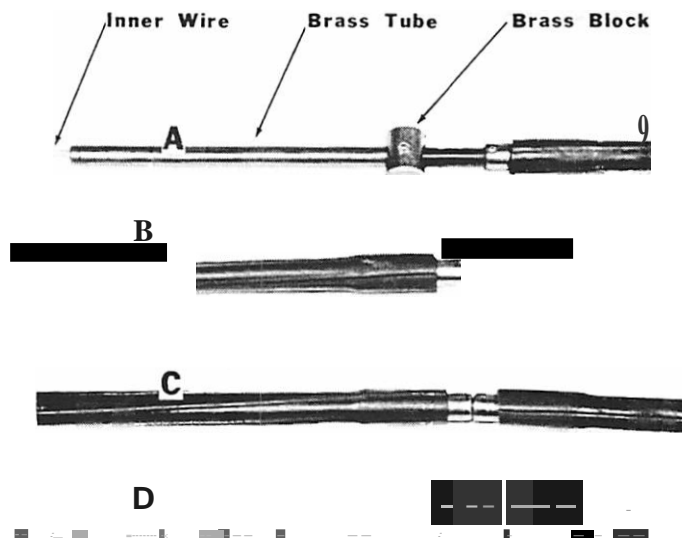

Figure 3. Increasing Length of Cable
1. Remove inner stainless steel wire from control cable. ("A" in Figure 3)
2. Remove brass or stainless steel tube from end of new cable. ("A" in Figure 3)
3. Cut tube off cable to be connected 3/16" (4.763mm) from shoulder of cable. ("B" in Figure 3)
6. Turn new cable into protruding threaded part until tight. ("C" in Figure 3) Cables should butt together.
8. Pull rubber cable cover equally over joint. The neoprene cover stretches over cable. ("D" in Figure 3)